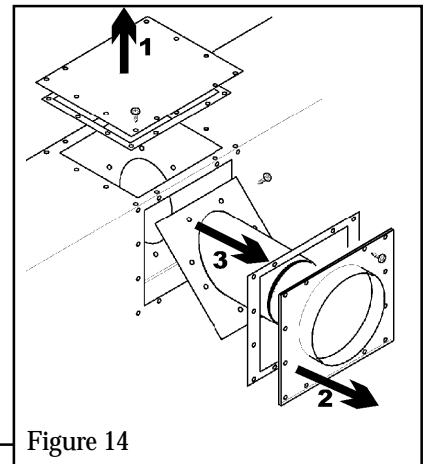

Figure 14
1. Remove the top plate and seal by unscrewing 12 screws. (See figure 14). Keep the seal, plate and screws for fitting to the back.
2. Remove the rear outer flue collar and seal by unscrewing 12 screws (See figure 14).
3. Remove the rear inner flue collar and seal by unscrewing 8 screws. (See figure 14).